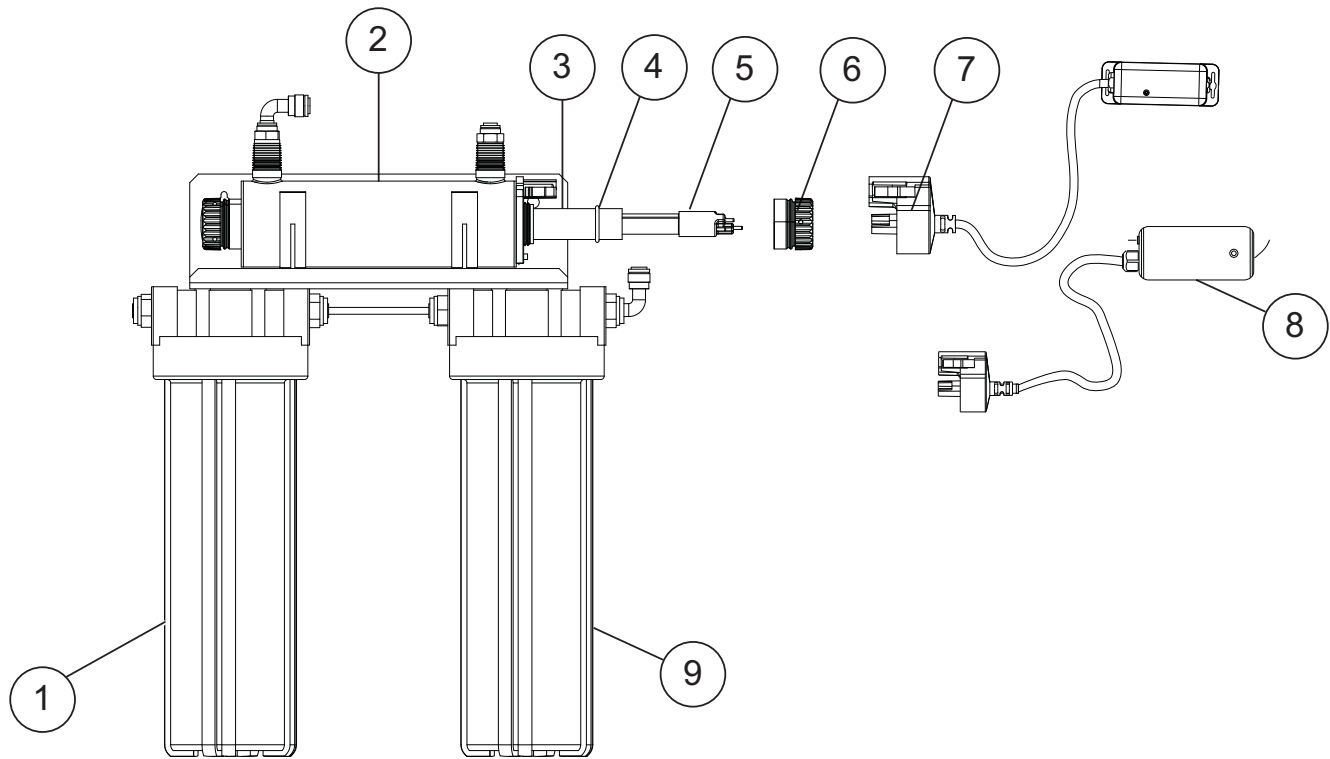

Figure 1 System Components
3. Mount the system to the wall using the two mounting holes in the back of the disinfection system with appropriate fastening devices. Refer to Figure 1.
6. The power source provided with your disinfection system must be located within five (5) feet of an electrical outlet. DO NOT use an outlet that can be switched off (ie. a waste disposal outlet). Attach the lamp connector to the UV lamp, slide the connector over the retaining nut. Plug the ballast into the outlet and ensure the POWER-ON LED is illuminated.